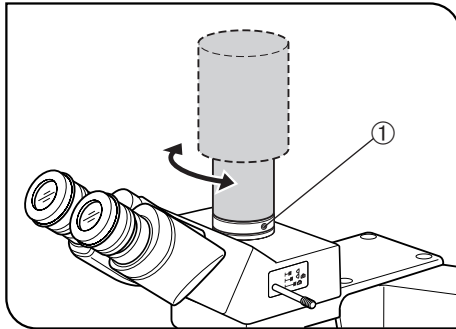

Fig. 7
(Figs. 7 &amp; 8)
Loosen clamping screw ① of the straight tube of trinocular tube, rotate the camera, and tighten screw ① again. (Fig. 7)